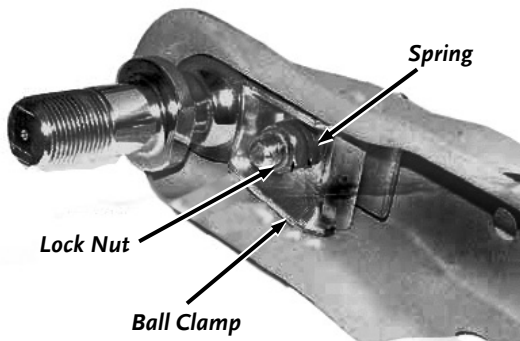

Figure 73
1. With the proper size ball in the socket of the hitch coupler, close the latch of the coupler completely (**Figure 73**). Verify that the locking trigger is properly engaged in its detent.